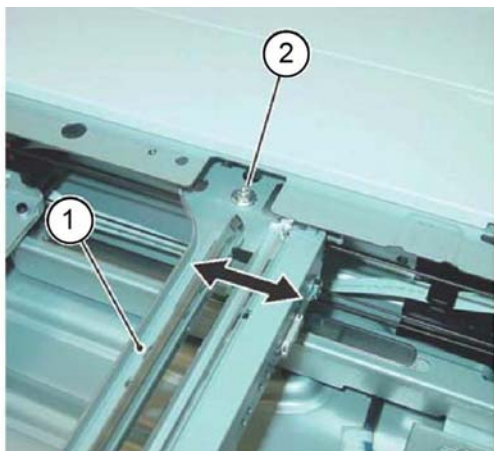

Figure 3 Cable detachment
7. Detach the carriage cable from the full rate carriage, **Figure 3**:
- a. Move the full rate carriage (1) to the cutout in the frame.
- b. Remove the screw (2).